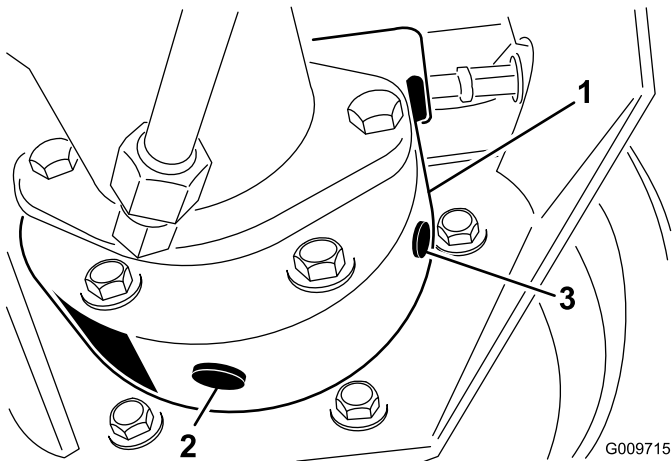

Figure 68
3. Place another drain pan under the brake housing on the other side of the wheel (Figure 68).